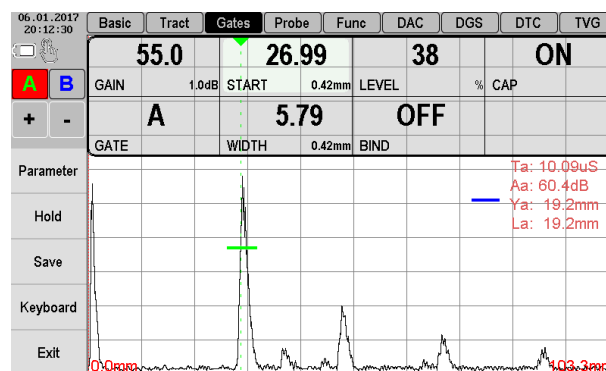

Figure 2.41 – Overlapping of A-gate on the signal from the nearest reflector
- Overlap A-gate on the signal from the nearest reflector (Figure 2.41).